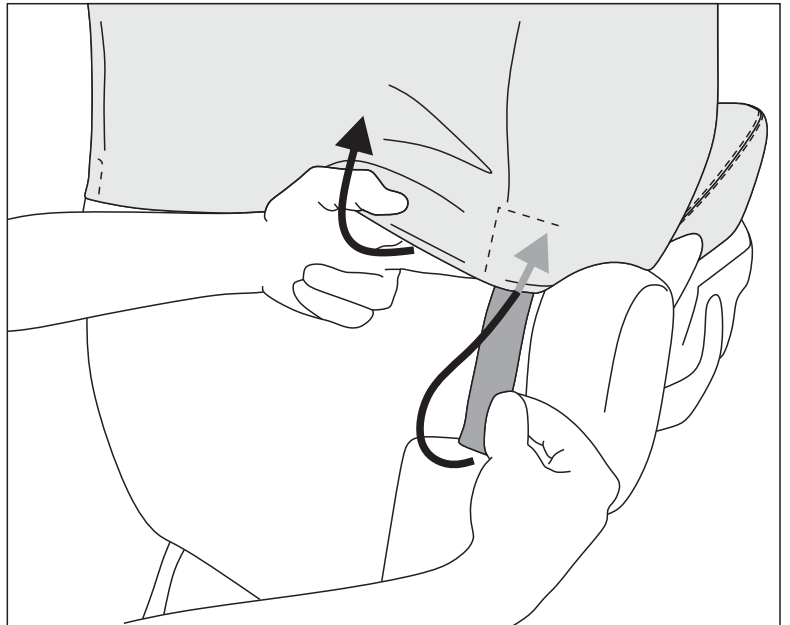

Fig.8
8. From the back of the seat, gently pull the soft loop tapes through and connect to the hard hook tapes behind the backrest cover (Fig.8).